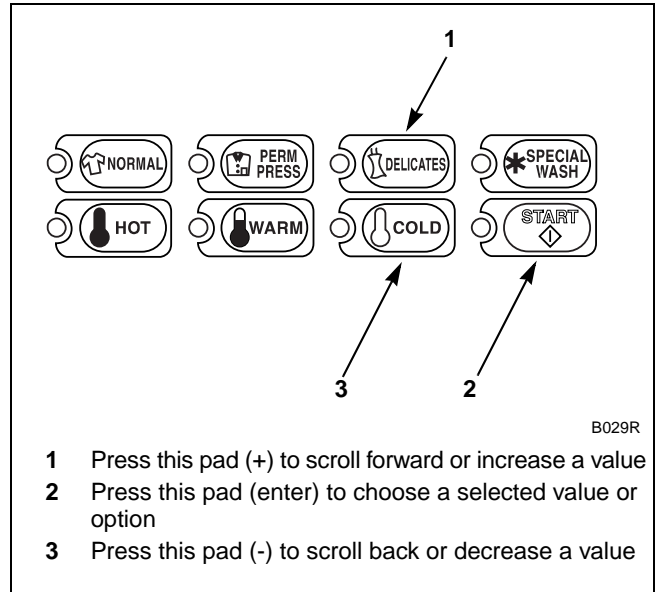

Figure 134
6. Press the DELICATES (+) or the COLD (-) keypad to increase or decrease the current number until correct. Refer to *Figure 134*.